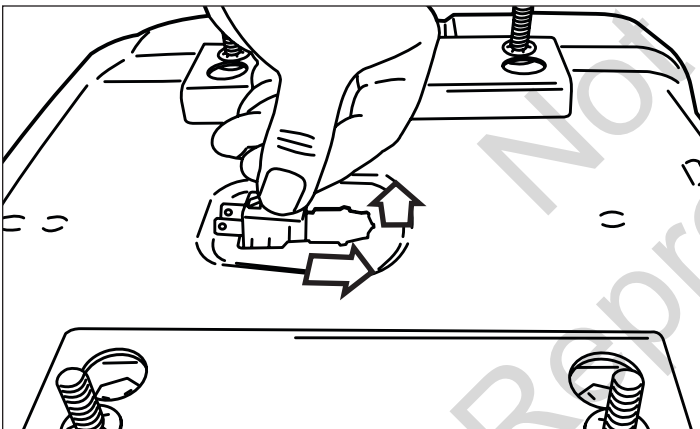

Figure 12
- B. Slide the switch toward the rear of the seat, and pull up to snap into place (Figure 12).